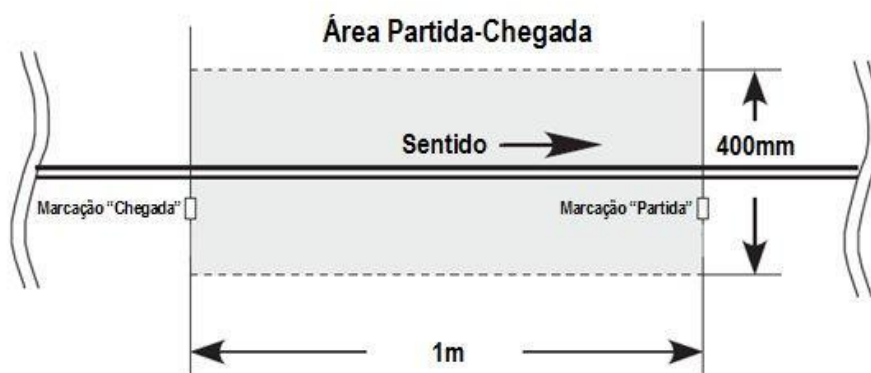

Figure 3: starting-finishing area.
4.8 The area of the track that extends between the starting point and the finishing point, considering 200mm to the right of the line and 200mm to the left of the line, is called the "starting-finishing area" (see figure 3).